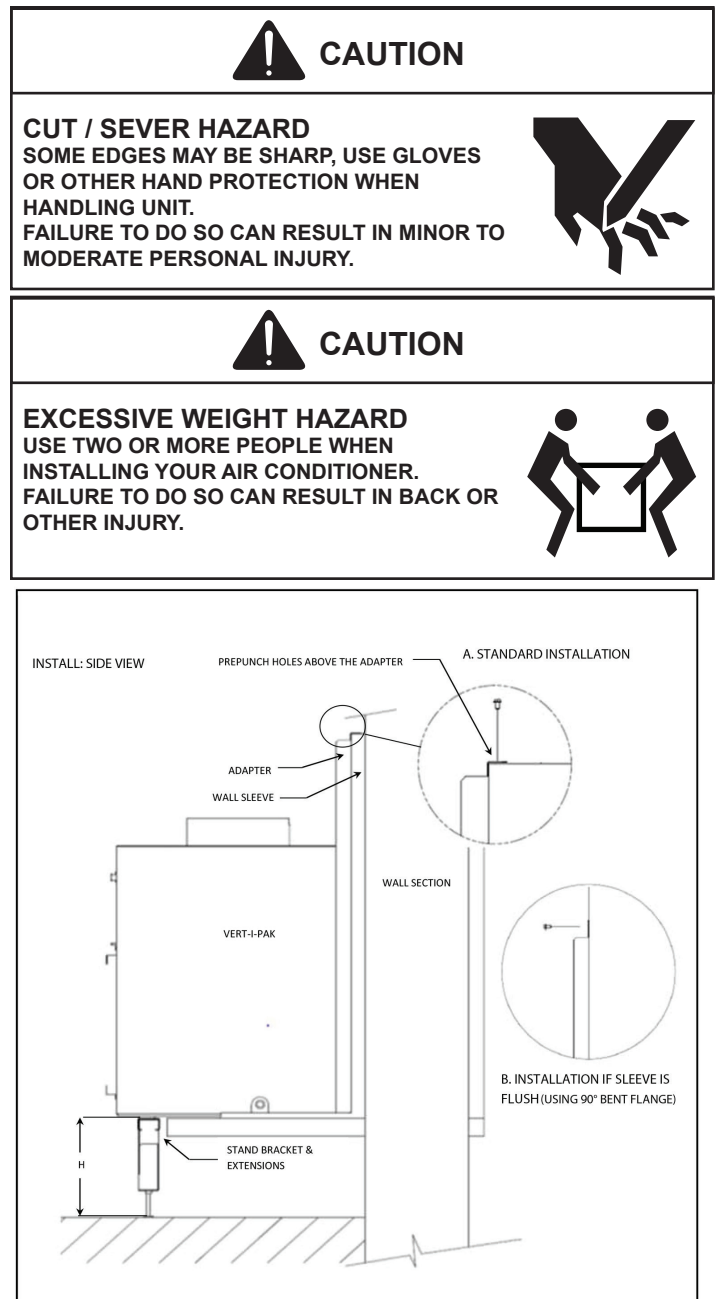

Figure 11
3. Measure the height from the bottom of the VTAC to the floor. (See “H” in Figure 11) height.